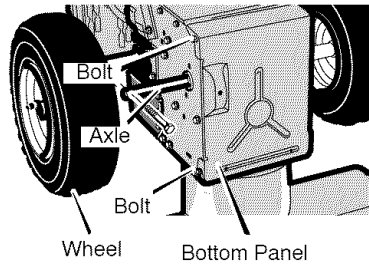

Figure 46
4. Remove the fasteners that secure the left **wheel**. Remove the **left wheel** from the **axle** (see Figure 46)
19. Install the **bottom panel** (see Figure 46).